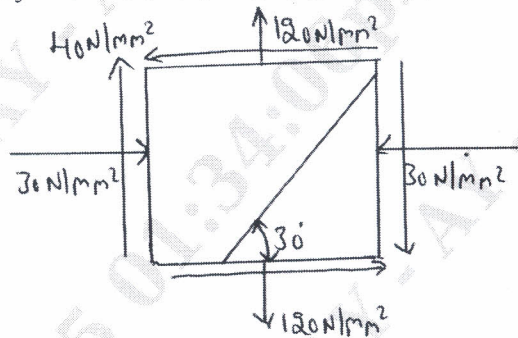

Fig.Q.4(b)
- b. At a certain point in a strained material the following stress condition prevails, as shown in Fig.Q.4(b). Find: